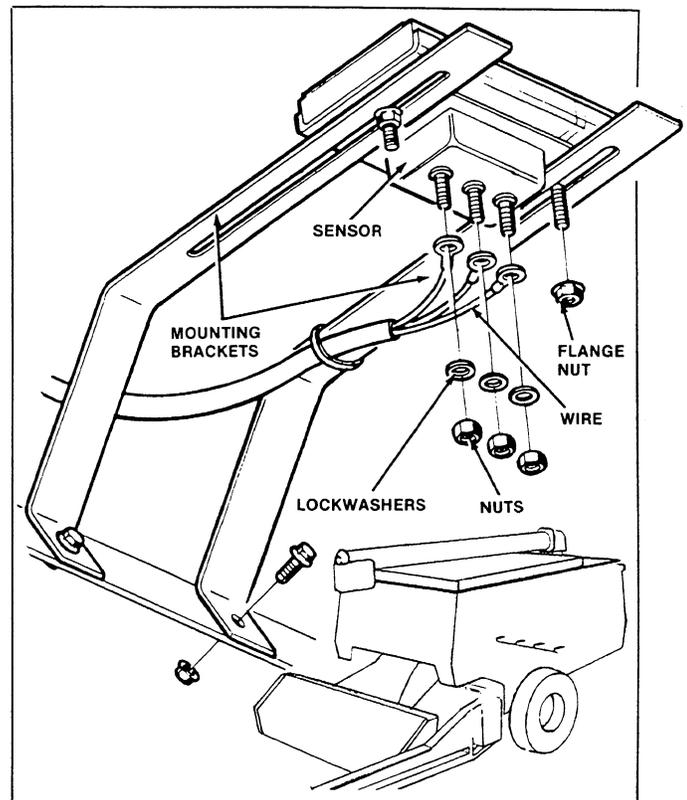

FIGURE 2-13: Grain Loss Sensor Pad Electrical Hook-up and Mounting
1. Remove nuts and lockwashers securing wires to grain loss sensor. Note position of wires and remove sensor (Figure 2-13).